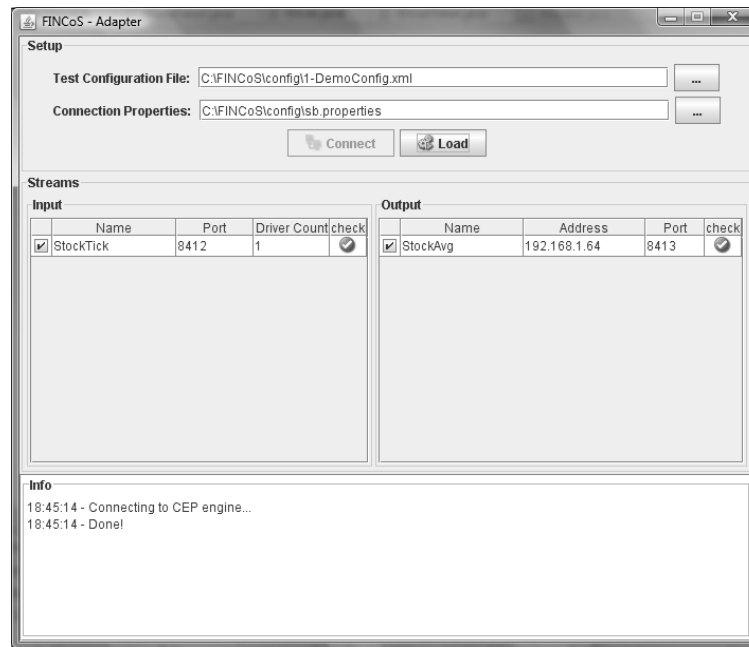

Figure 3.3: Adapter application after connecting to CEP engine
3. **Connect to CEP engine** – when the user clicks on the “Connect” button, the Adapter will try to connect with the CEP engine using the connection properties obtained from the vendor-specific .properties file (in most CEP products the continuous queries must already be running at that moment). If the connection succeeds, the Adapter will retrieve the list of available input and output streams. The Adapter then will check if the streams configured in the test setup file are all available in the CEP engine. If that is the case, the Adapter application will look like in figure 3.3, with a check mark in the right side of each stream, indicating that they are indeed available at the CEP engine. At that point, the Adapter will be ready for being loaded. On the other hand, if some of the streams in the test setup file are not present in the CEP engine, the Adapter will display a warning message, and it will not be possible to load it (in fact, it is still possible to proceed with driver load in this case, by deselecting the missing stream(s); however the missing stream(s) will not be available for use at the Adapter, which may lead to an undesirable test behavior);